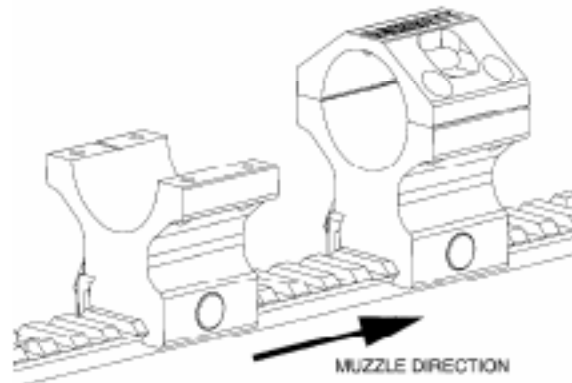

Figure 2-2
1. Place the rear ring (shipped only as a bottom half) on the M1913 optics mounting rail. Attach this ring on the mounting rail in a slot near the rear of the rail. Figure 2-2. (Proper eye relief may be achieved later by moving the entire assembly.)
2. Place the front ring (shipped as an assembled top and bottom) on the M1913 optics mounting rail approximately eight slots forward of the rear ring. From the side view, approximately four complete mounting ridges are visible. Figures 2-2 and 2-3. (Some scope models may require different spacing between rings.)